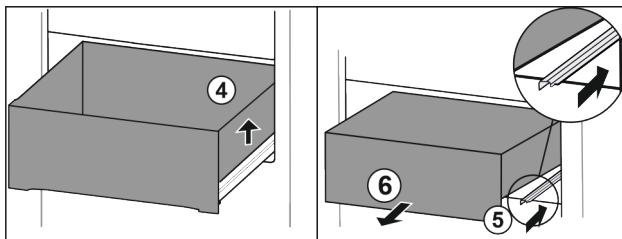

Fig. 69
- Lift drawer on the right. Fig. 69 (4)
- Insert right rail. Fig. 69 (5)
- Remove drawer to the front. Fig. 69 (6)